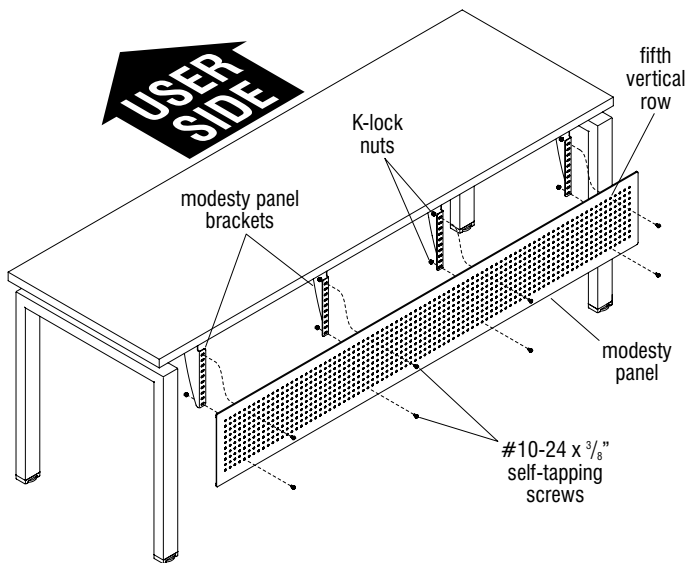

Figure 41 - Single-Sided Fixed Benching, Modesty Panel Installation
1. Carefully position the modesty panel up to the modesty panel brackets, and align the fifth vertical row of holes (third vertical row if assembling on wood leg desk) on each end of the modesty panel with the mounting holes of the outside modesty panel brackets. Take care to also align the appropriate top and bottom mounting holes of the modesty panel with the corresponding holes in the modesty panel brackets (Figures 41 & 42).
2. Using #10-24 x 3/8" self-tapping screws in the front and K-lock nuts at the rear, secure modesty panel to the modesty panel brackets. Only the top and bottom mounting holes of each modesty panel bracket need be used for attaching the panel to each bracket. Take care to push upward on the bottom of the modesty panel while tightening the screws, so the unused holes in the modesty panel align with the slots in the bracket for a clean finished look (Figures 41 & 42).